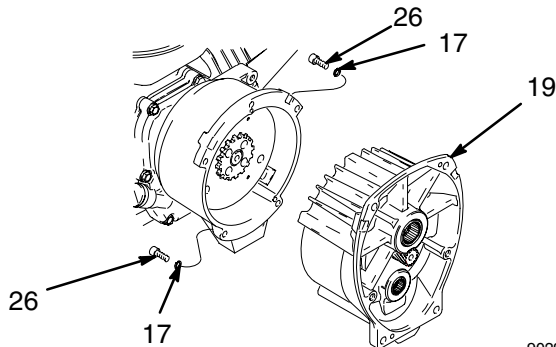
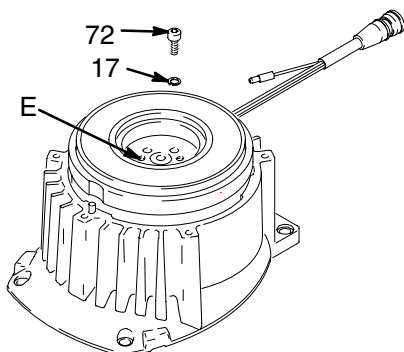
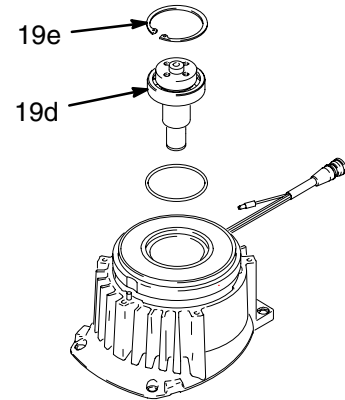

Fig. 6 9029A
Fig. 7 9030A
Fig. 8 9030A
3. Fig. 6. Remove five screws (26) and lockwashers (17) and pinion assembly (19).
4. Fig. 7. Place pinion assembly (19) on bench with rotor side up.
5. Remove four screws (72) and lockwashers (17). Install two screws in threaded holes (E) in rotor. Alternately tighten screws until rotor comes off.
6. Fig. 8. Remove retaining ring (19e).
5. Install four screws (16) and lockwashers (17) with torque of 125 in-lb.
6. Fig. 8. Tap pinion shaft (19d) in with plastic mallet.
7. Install retaining ring (19e) with beveled side facing field (Y).
8. Fig. 7. Place pinion assembly on bench with rotor side up.
9. Apply locktite to screws. Install four screws (16) and lockwashers (17). Alternately torque screws to 125 in-lb until rotor is secure. Use threaded holes to hold rotor.
10. Fig. 6. Install pinion assembly (19) with five screws (10) and lockwashers (9).